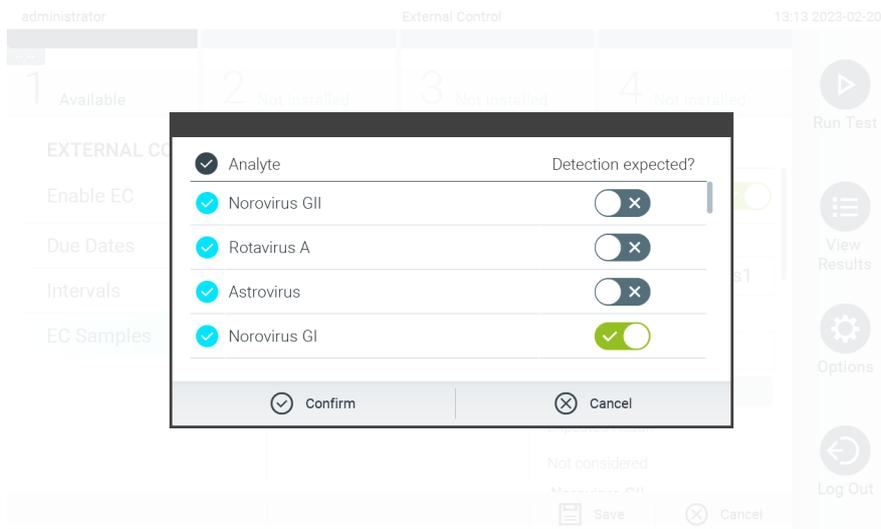

Figure 80. External Control EC Sample configuration screen.
6. Select **Configure** to edit the analytes in an External Control test (Figure 79). In the External Control EC Sample configuration, it can be determined whether an analyte is considered for the External Control EC run and whether a detection is expected (Figure 80).